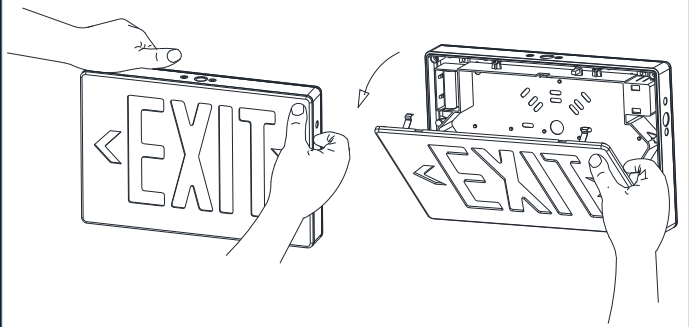

Fig 2
1. Start by removing front cover from main housing (Fig 2).